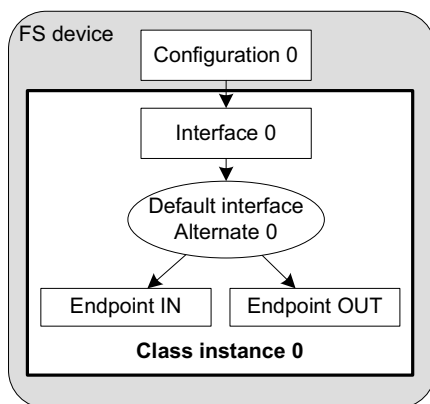
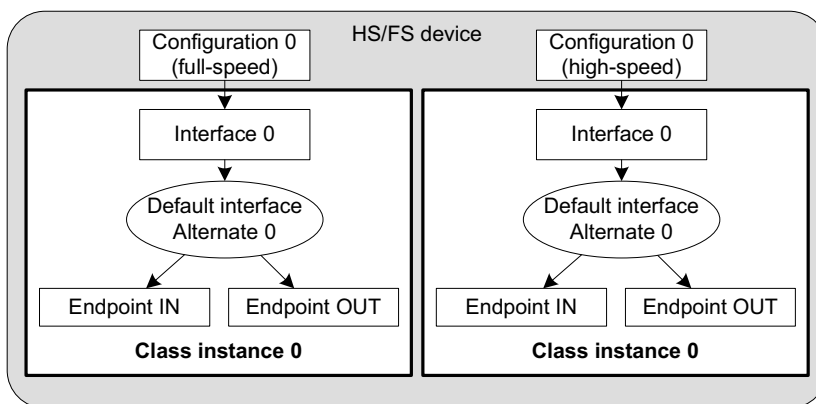
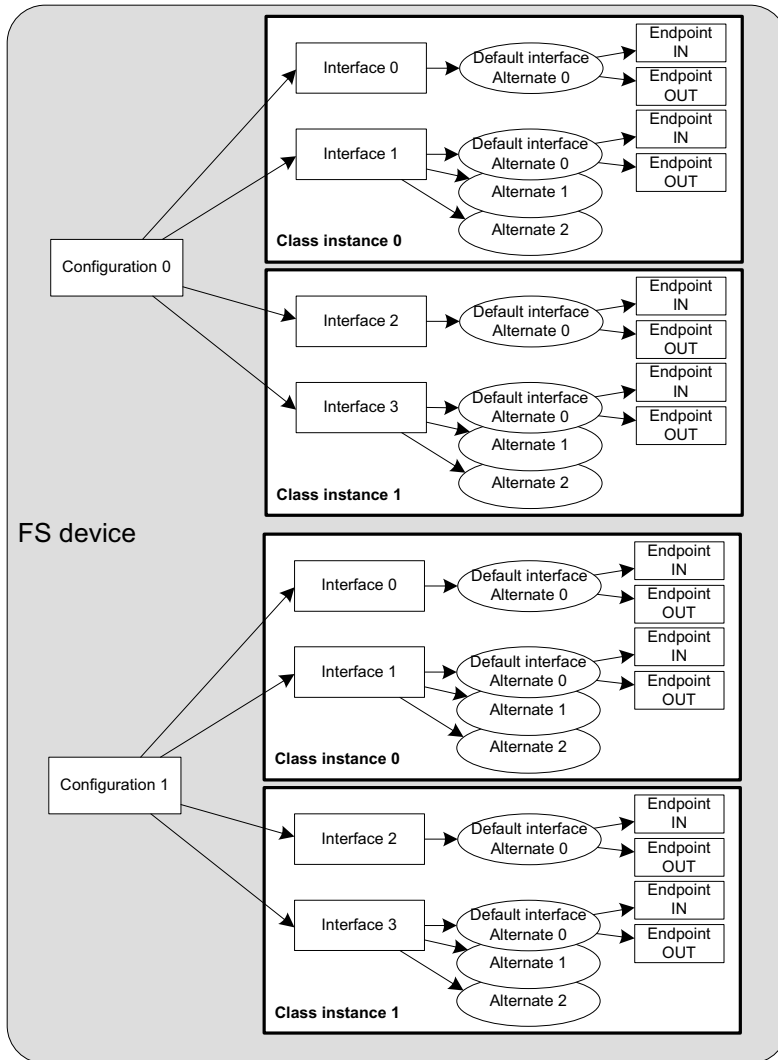

Figure 7-1 **Multiple Class Instances - FS Device (1 Configuration with 1 Interface)**
Figure 7-2 Multiple Class Instances - HS/FS Device (2 Configurations and 1 Single Interface)
Figure 7-3 **Multiple Class Instances - FS Device (2 Configurations and Multiple Interfaces)**
The following illustrations present several case scenarios. Each illustration is followed by a code listing showing the code corresponding to the case scenario. Figure 7-1 represents a typical USB device. The device is Full-Speed (FS) and contains one single configuration. The function of the device is described by one interface composed of a pair of endpoints for the data communication. One class instance is created and it will allow you to manage the entire interface with its associated endpoint.
The code corresponding to Figure 7-1 is shown in Listing 7-1.
- L7-1(1) Initialize the class. Any internal variables, structures, and class Real-Time Operating System (RTOS) port will be initialized.
- L7-1(2) Create the class instance, `class_0`. The function `USB_D_XXXX_Add()` allocates a class control structure associated to `class_0`. Depending on the class, besides the parameter for an error code, `USB_D_XXXX_Add()` may have additional parameters representing class-specific information stored in the class control structure.
- L7-1(3) Add the class instance, `class_0`, to the specified configuration number, `cfg_0`. `USB_D_XXXX_CfgAdd()` will create the interface 0 and its associated endpoints IN and OUT. Hence, the class instance encompasses the interface 0 and its endpoints. Any communication done on the interface 0 will use the class instance number, `class_0`.
Figure 7-2 represents an example of a high-speed capable device. The device can support High-Speed (HS) and Full-Speed (FS). The device will contain two configurations: one valid if the device operates at full-speed and another if it operates at high-speed. In each configuration, interface 0 is the same but its associated endpoints are different. The difference will be the endpoint maximum packet size which varies according to the speed.
The code corresponding to Figure 7-2 is shown in Listing 7-2.
In the case of the high-speed capable device presented in Figure 7-2, in order to enable the use of *Device\_Qualifier* and *Other\_Speed\_Configuration* descriptors, the function `USBD_CfgOtherSpeed()` should be called during the  $\mu$ C/USB-Device initialization. Listing 2-5 presents the function `App_USBD_Init()` defined in `app_usbd.c`. This function shows an example of the  $\mu$ C/USB-Device initialization sequence. `USBD_CfgOtherSpeed()` should be called after the creation of a high-speed and a full-speed configurations with `USBD_CfgAdd()`. Listing 7-3 below shows the use `USBD_CfgOtherSpeed()` based on Listing 2-5. Error handling is omitted for clarity.
Figure 7-3 represents a more complex example. A full-speed device is composed of two configurations. The device has two functions which belong to the same class. Each function is described by two interfaces. Each interface has a pair of bidirectional endpoints. In this example, two class instances are created. Each class instance is associated with a group of interfaces as opposed to Figure 7-1 and Figure 7-2 where the class instance was associated to a single interface.
The code corresponding to Figure 7-3 is shown in Listing 7-4. The error handling is omitted for clarity.
You can refer to section 5-4 “Configuration Examples” on page 71 for some configuration examples showing multiple class instances applied to composite devices. Composite devices use at least two different classes provided by the  $\mu$ C/USB-Device stack. The section 5-4-2 “Composite High-Speed USB device” on page 73 gives a concrete example based on Figure 7-2. See section 5-4-3 “Complex Composite High-Speed USB device” on page 74 for a hybrid example that corresponds to Figure 7-2 and Figure 7-3.